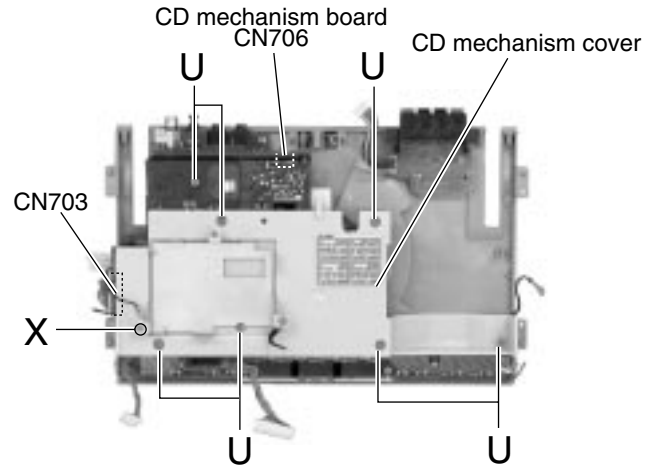

Fig.34
**■ Removing the CD mechanism board / mechanism assembly (See Fig.34 to 38)**